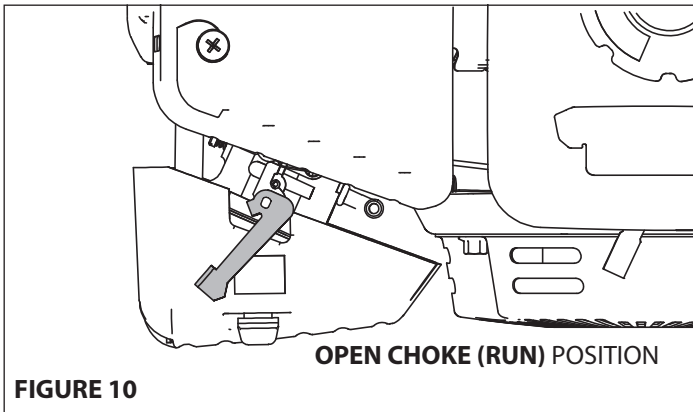

FIGURE 10
8. After starting engine slowly move the choke lever to **RUN** position. **SEE FIGURE 10**